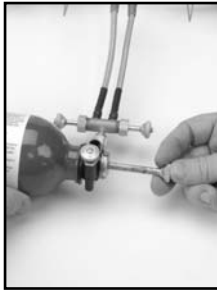

FIG. 23
- Place thumb over hole in PUMP KNOB and pump 25 full strokes (Fig 23).